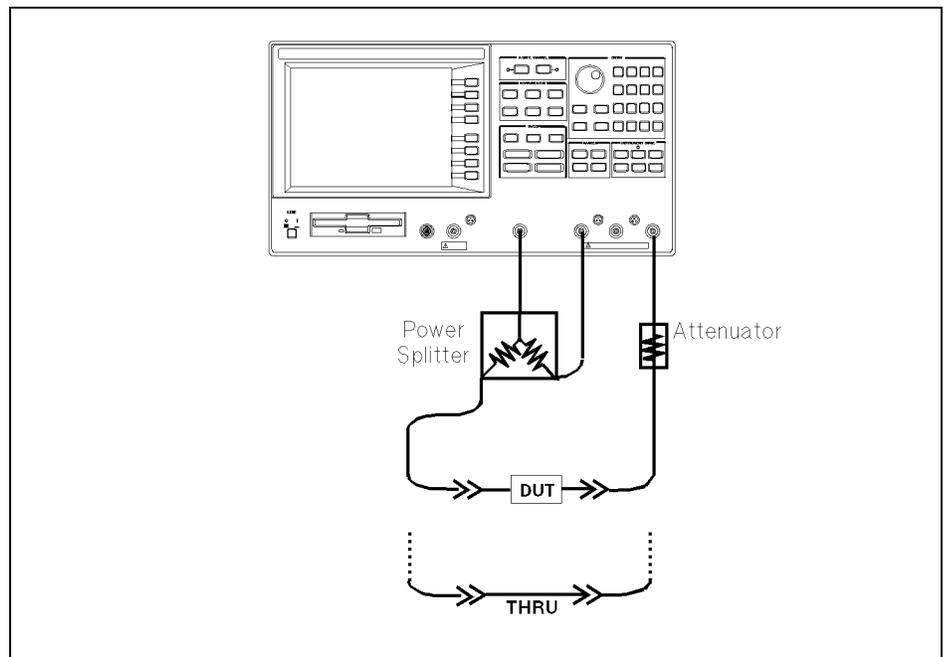

Figure 5-22. Gain Compression Measurement Setup
Set up the analyzer as shown in Figure 5-22.
2. Connect a THRU calibration standard between the measurement cables in place of the DUT (see Figure 5-22).